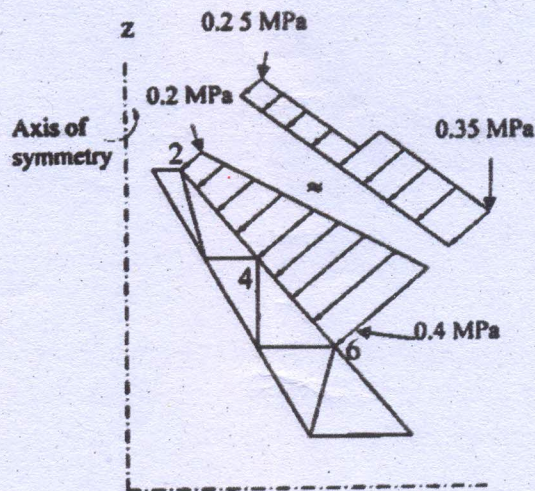

Fig 3
- (b) An axisymmetric body with a linearly distributed load on the conical surface is shown in fig 3. Determine the equivalent point loads at nodes 2, 4, and 6.